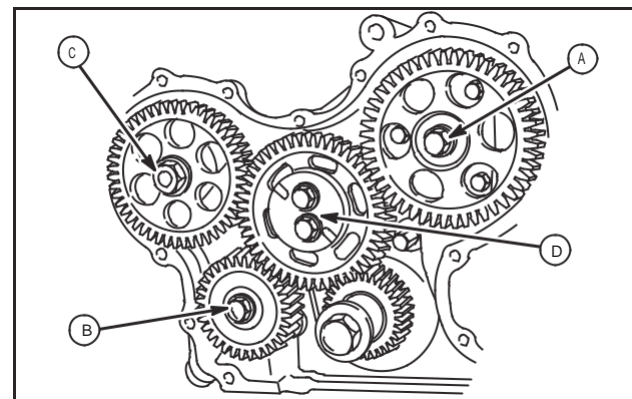

Fig. 10 – Removing Gears
5. Remove the following parts, Fig. 10.